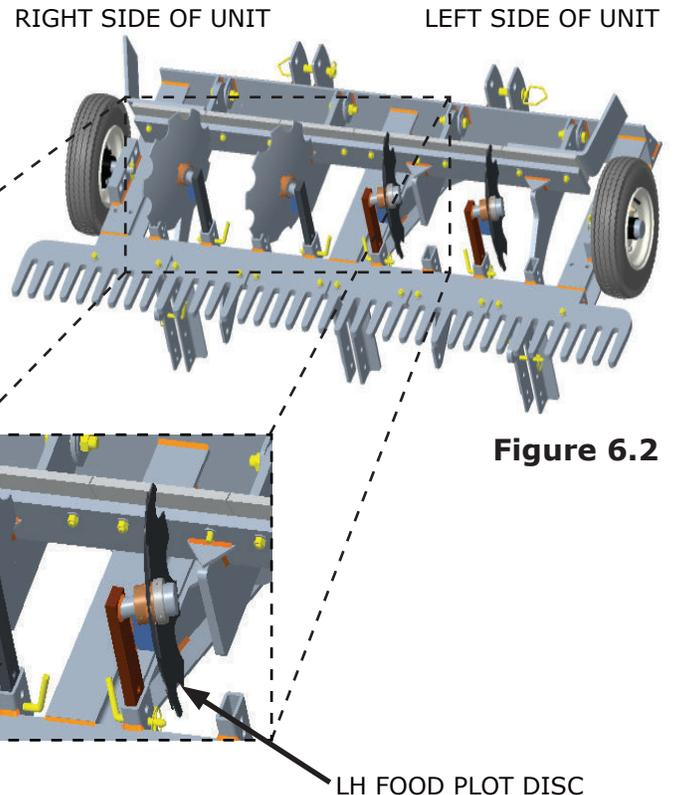

Figure 6.2
2. Slide the Left Disc assemblies into every other pocket on the left side of the unit and the Right Disc assemblies into every other pocket on the right side of the unit. (Figure 6.2)
- Recommend pinning hole in disc shank, farthest from disc, into 2nd hole from the bottom of the pocket. (Figure 6.2)